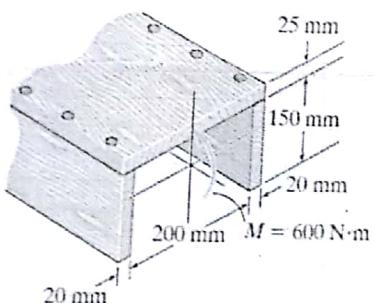

Fig. 6
6. The beam is made from three boards nailed together as shown in Fig. 6. If the moment acting on the cross section is  $M = 600 \text{ Nm}$ , determine the maximum bending stress in the beam. Sketch a three-dimensional view of the stress distribution acting over the cross section.